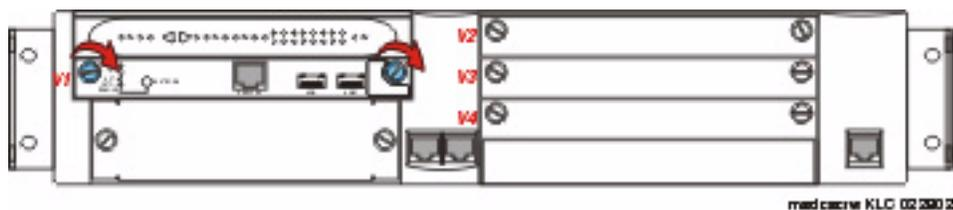

Figure 2. Tighten Screws
8. Tighten the captive screws on the S8300 Media Server module.(Figure 2)